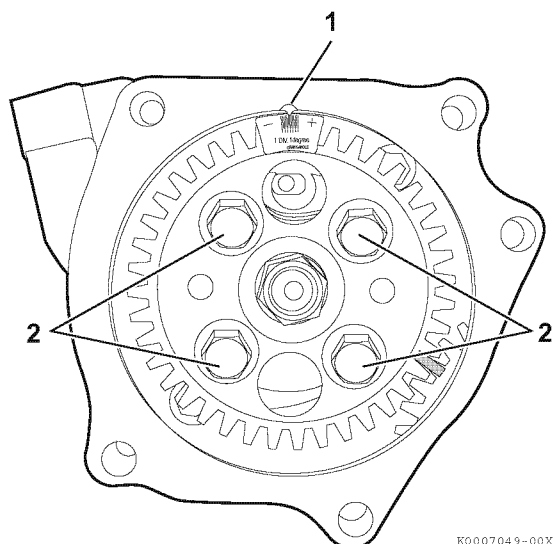

Figure 7-26
5. Clean the area of the gear by the pointer on the timing cover and put the sticker on the drive gear, aligning the timing mark on the timing cover (**Figure 7-26, (1)**) with the center of the sticker.
6. Loosen the four bolts (**Figure 7-26, (2)**) fastening the injection pump drive gear to the flange.